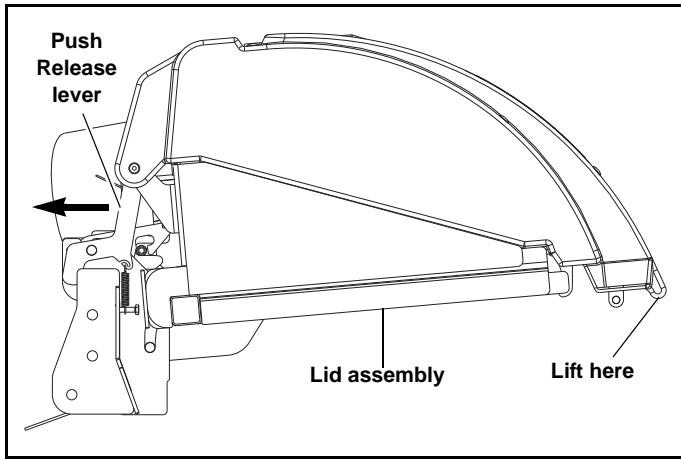
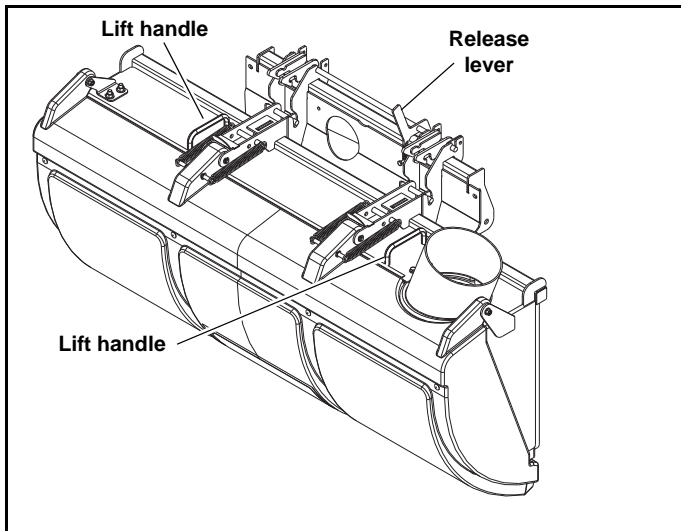

Figure 4-6
Figure 4-7
release the latches. Figure 4-6 & Figure 4-7
3. Using the lift handles lift the lid assembly out of the notches on the mount assembly. Figure 4-7